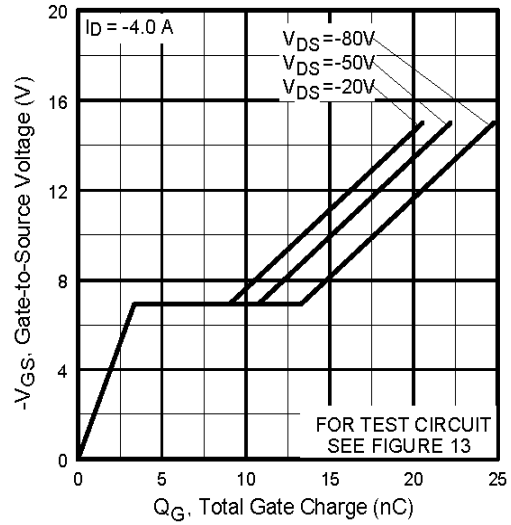

Fig 6. Typical Gate Charge Vs. Gate-to-Source Voltage
| Q_{gd} | Gate-to-Drain ("Miller") Charge | --- | --- | 15 | | $V_{GS} = -10V$, See Fig. 6 and 13 ④⑤ |